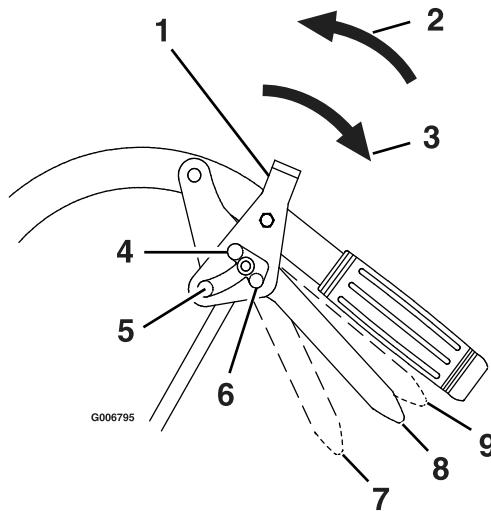
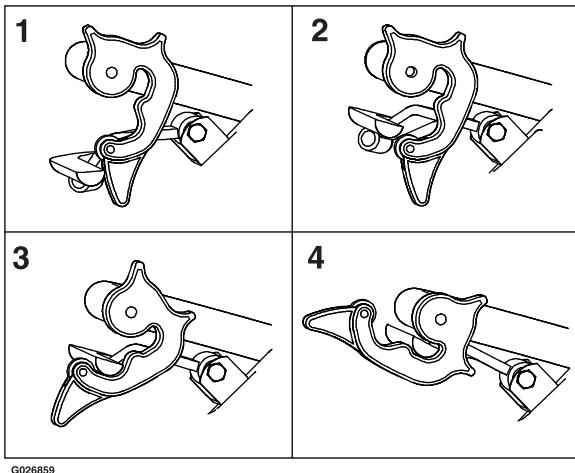

Figure 13
Figure 14
1. Adjust the park brake by rotating the wingnut on the upper end of each brake rod. Tighten the wingnut until the brakes engage when the drive levers are squeezed enough to allow the neutral lock/park brake latches to be placed into the "park brake" position. See Figure 13 for Pistol Grip Handles and Figure 14 for ECS Handles.